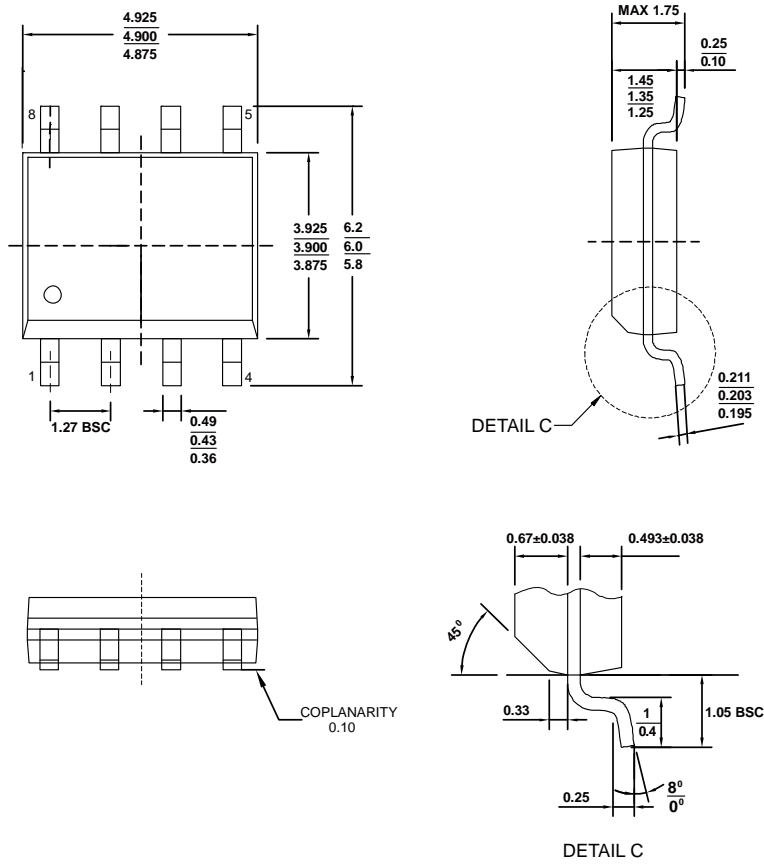
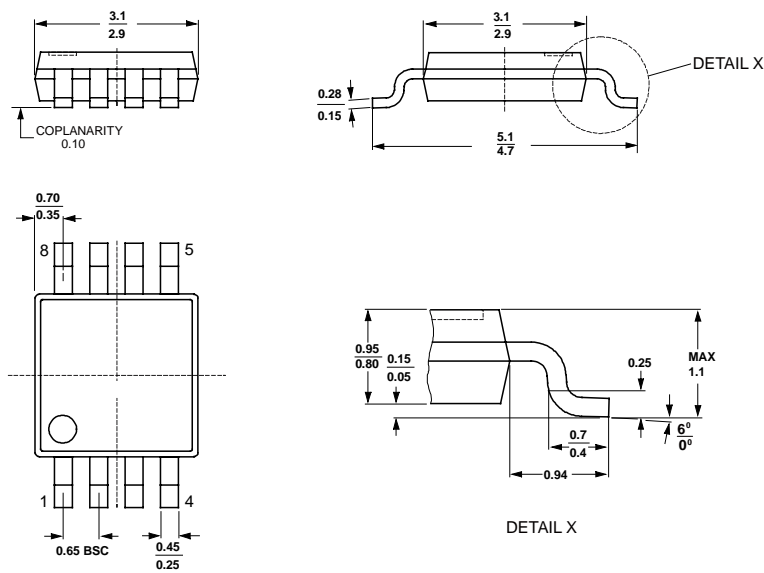
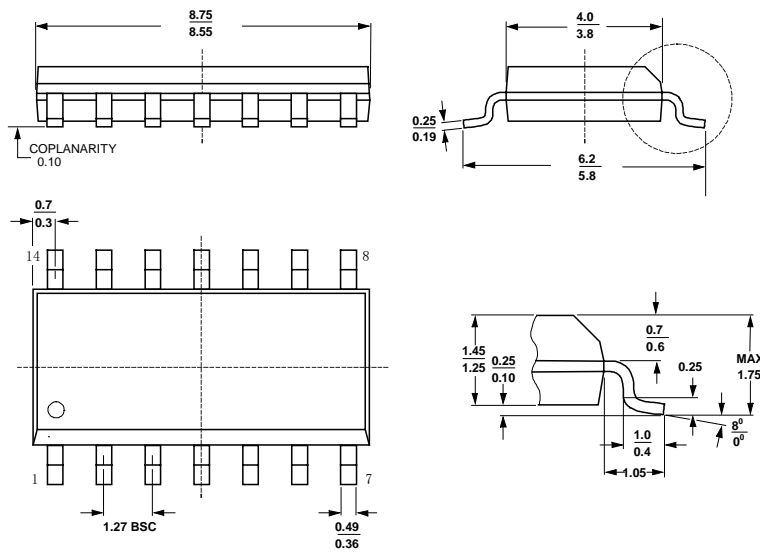

Figure 46. 8-Lead SOIC Package Dimensions shown in millimeters
Figure 47. 8-Lead MSOP Package Dimensions shown in millimeters
Figure 48. 14-Lead SOIC Package Dimensions shown in millimeters
- Place the external components as close to the device as possible. As illustrated in Figure 46, Figure 47, Figure 48 and Figure 49, keeping R_F , R_G and C_F close to the inverting input minimizes parasitic capacitance.